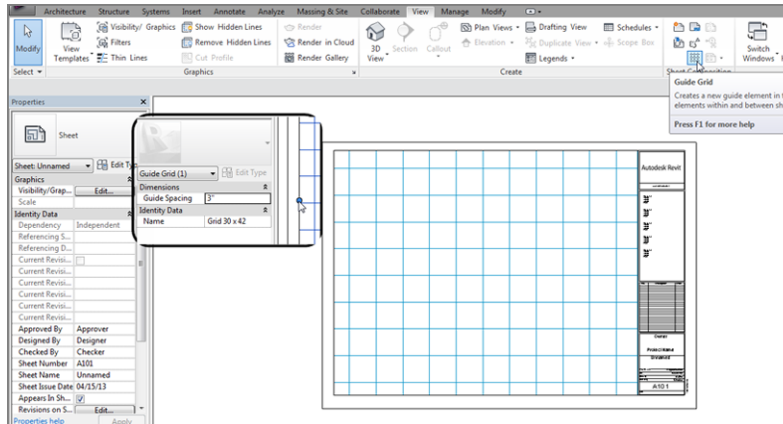

FIGURE 14.2: Adding a guide grid to a sheet
1. On the View tab, click Guide Grid, as shown in Figure 14.2.
3. Select the guide grid, and drag it into place by using the blue grips (see Figure 14.2).
4. With the guide grid still selected, change Guide Spacing to 3" (75mm) in the Properties dialog box (see Figure 14.2).